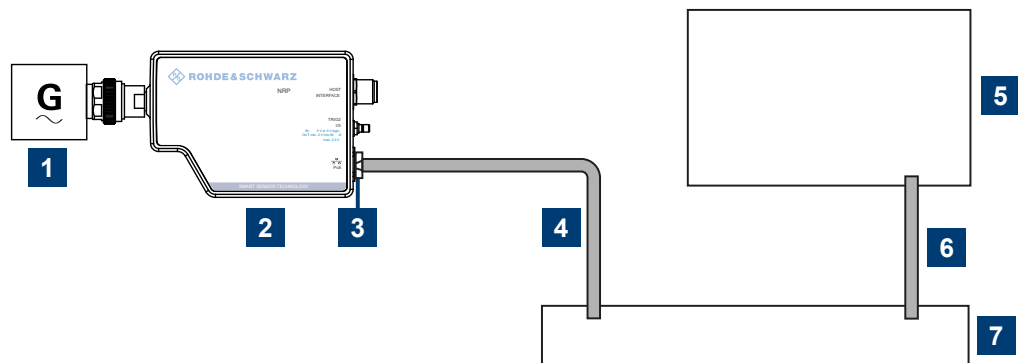

Figure 5-1: Setup with the web user interface
2. Connect the cables as shown in Figure 5-1.